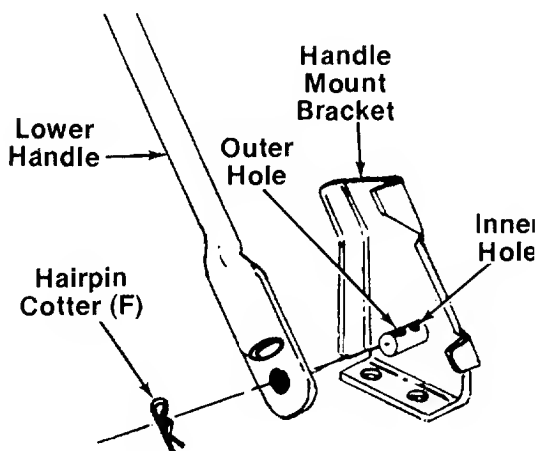

FIGURE 2.
- B (1) Curved Head Carriage Bolt
- C (2) Lock Washers 5/16" I.D.
- D (2) Hex Nuts 5/16-18 Thread
- E (5) Cable Ties
- F (2) Hairpin Cotters
- G (1) Plastic Plug (May Be Already Assembled)
- H (5) Plastic Cable Anchors
- I (1) Cable Clamp (Not Shown)
3. Attach the lower handle by placing the bottom holes in the lower handle over the weld pins on the handle mount brackets. Make certain the instruction label on the lower handle can be read from the operating position. Secure with hairpin cotters (F) in inner holes on weld pins. See figure 2.